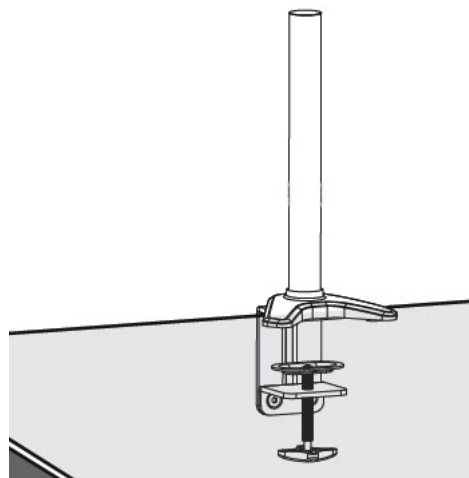

Figure 2
2. Tighten the C-Clamp to the desktop by turning the clamp screw counter clockwise, see Figure 2.